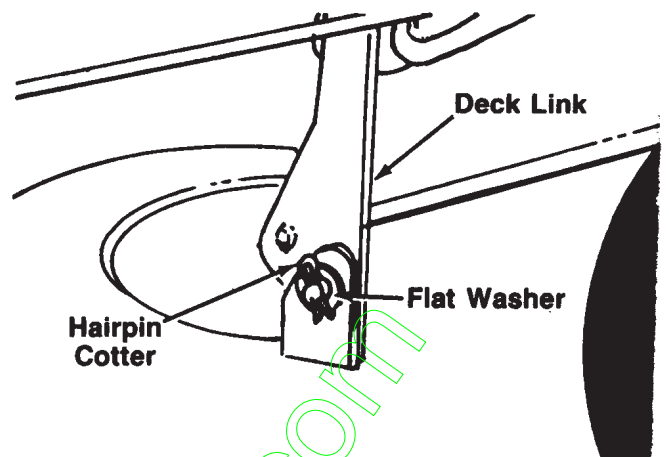

FIGURE 5.
- Remove the three hairpin cotters and flat washers which hold the deck links to the rider. Two are located at the rear of the deck. See figure 5. One is located at the front of the deck.